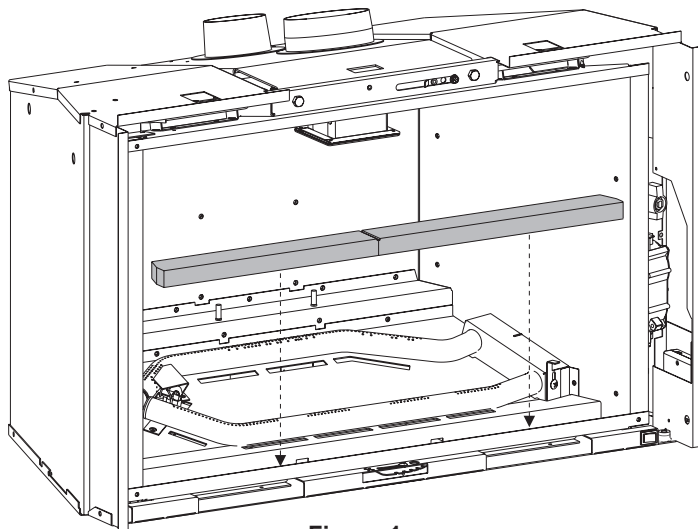

Figure 1
2. Place the right and left floor liners as shown in **Figure 1**.